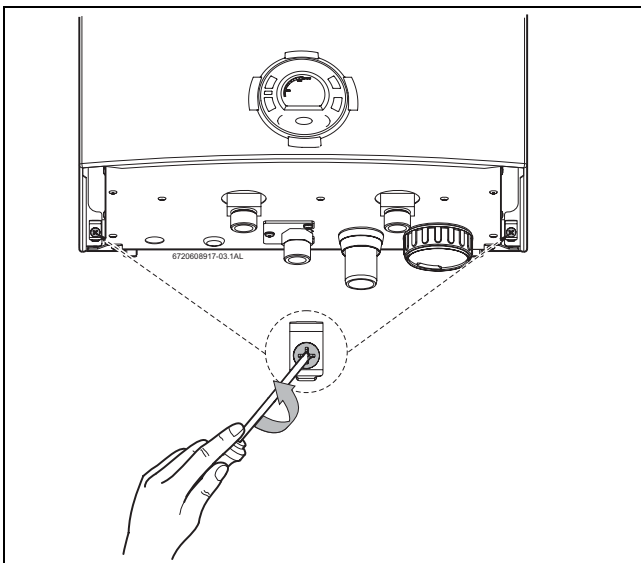

Fig. 24 Loosen the two screws
- ▶ Loosen the two Philips head screws located on the bottom rear of cover (→ Fig. 24).